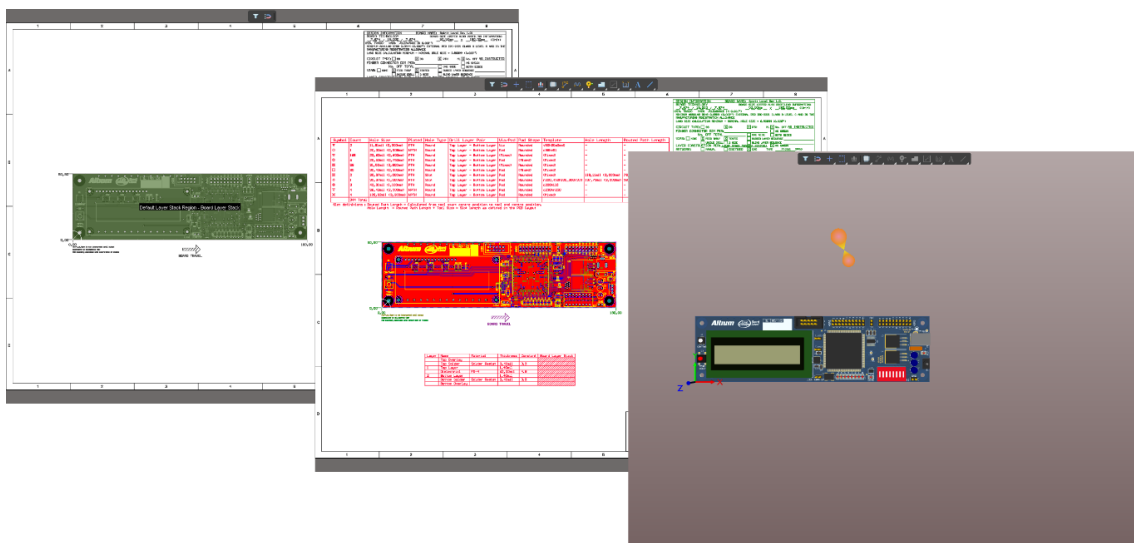

Figure 3. The three Viewing Modes, Board Planning Mode / 2D / 3D
- Press **1** on the keyboard to switch to the Board Planning mode. You can find the command also in the View menu **View » Board Planning Mode**, Figure 3 left.
- Press **2** on the Keyboard to switch to the 2D Mode. You can find the command also in the View menu, **View » 2D Layout Mode**, Figure 3 center.
- Press **3** on the Keyboard to switch to the 3D Mode. You can find the command also in the View Menu, **View » 3D Layout Mode**, Figure 3 right.